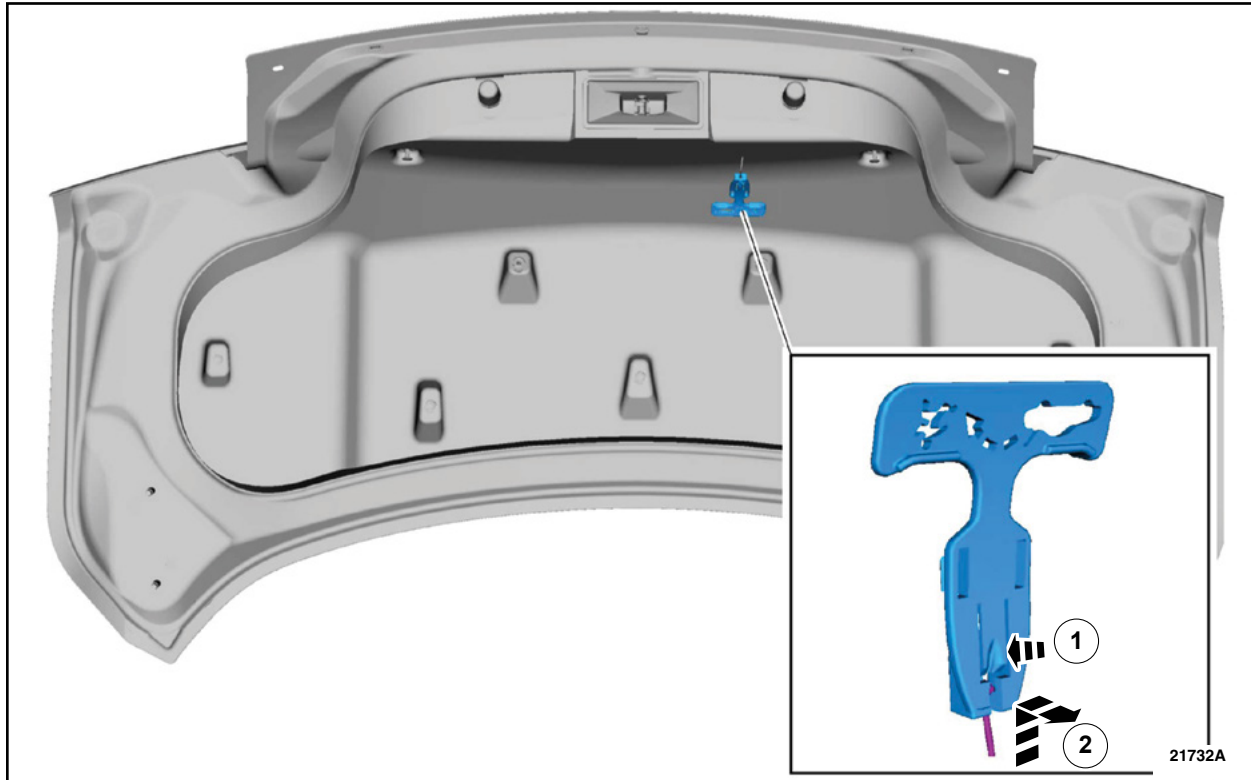

FIGURE 6
18. Remove the luggage compartment lid emergency release handle. See Figure 6.